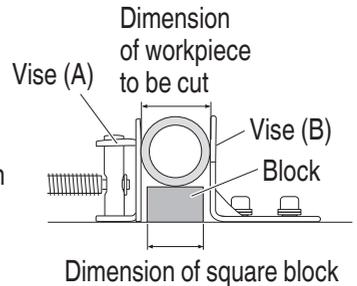

Fig. 10
5. How to use square block (**Fig. 10**)